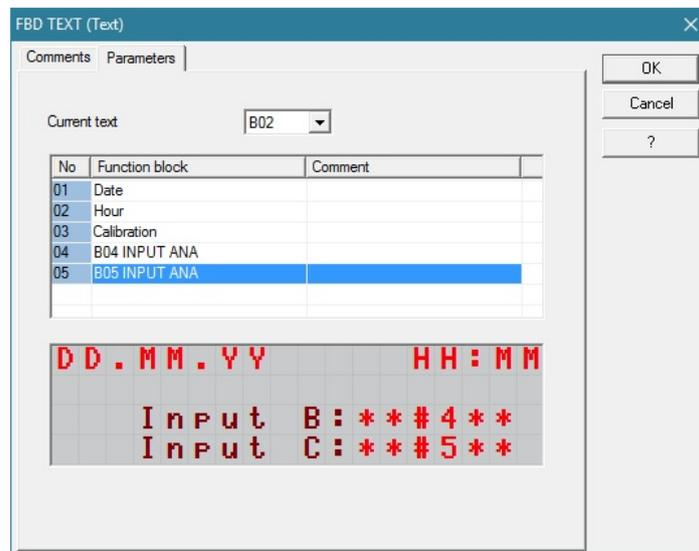

Figure 78 - Analog inputs monitoring
3. Modify the TEXT block configuration as shown in Figure 78.